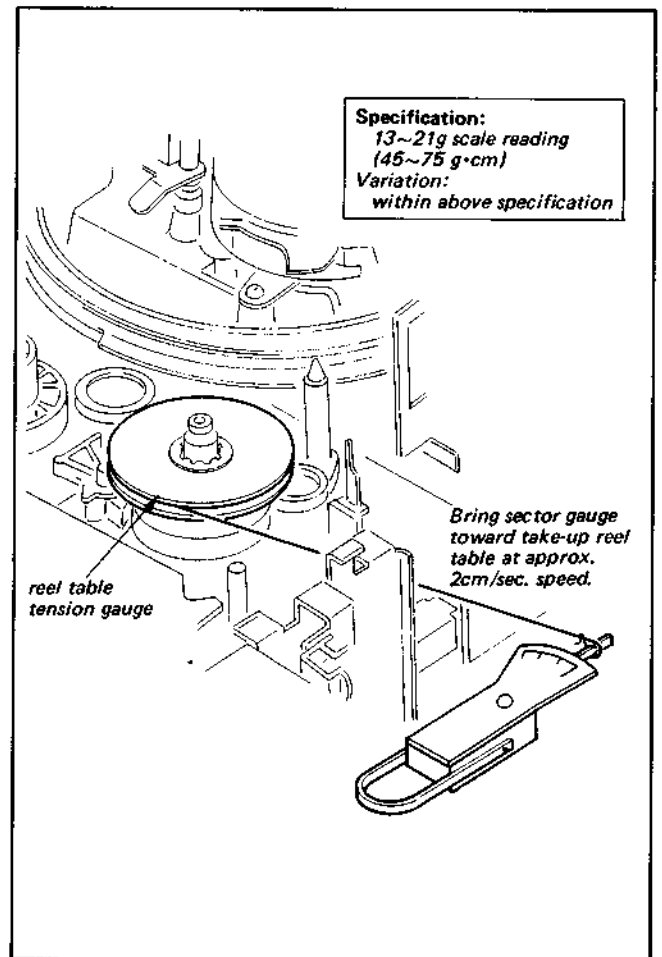

Fig. 3-40. Check of cassette eject torque
2. Attach the reel table tension gauge (Tool Kit Ref. No. J-5) as shown in Fig. 3-40.
5. Bring the sector type gauge toward the take-up reel table at a speed of approx. 2cm/sec. during the unthreading as shown in Fig. 3-40. Confirm that the gauge reading is within the specification. If not, replace the E limiter assembly (X-3659-301-0) of the threading unit section and make the confirmation again.